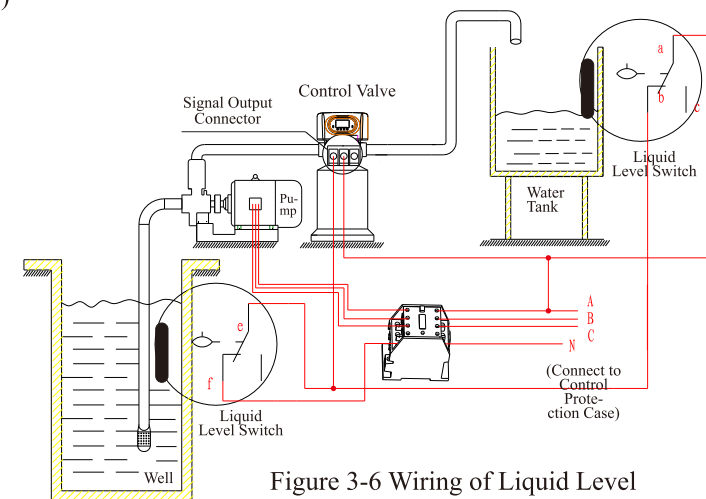

Figure 3-6 Wiring of Liquid Level Controller Controlling 380V Inlet Pump
3) Liquid Level Controller in Water Tank Controls Inlet pump (Three-phase, Figure 3-6) (Set b-01)